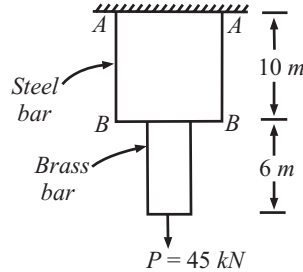

Fig. 14.30
Q. 43: Two prismatic bars are rigidly fastened together and support a vertical load of 45kN as shown in Fig. 14.30. The upper bar is steel having mass density 7750 kg/m³, length 10 m and cross-sectional area 65 cm². The lower bar is brass having mass density 9000 kg/m³, length 6 m and cross-sectional area 50 cm². Determine the maximum stress in each material. For steel $ES = 200 \text{ GN/m}^2$ and for brass $Eb = 100 \text{ GN/m}^2$.
Sol.: Refer Fig. 14.30. The maximum stress in the brass bar occurs at junction BB, and this stress is caused by the combined effect of 45kN load together with the weight of brass bar.